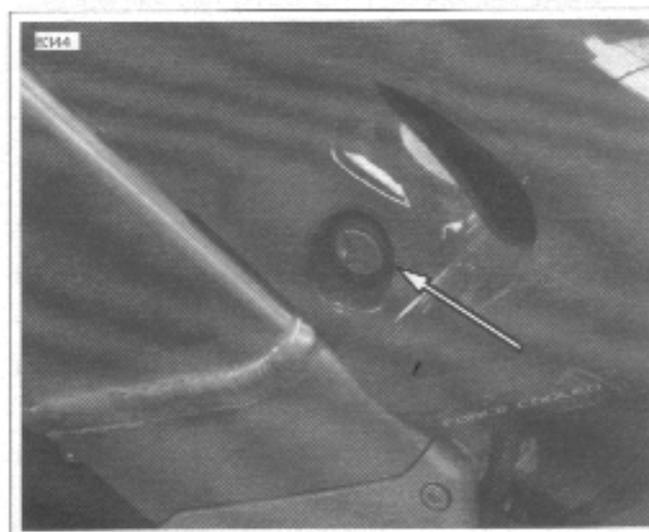

Figure 2-115. Pillion Seat Lock
1. See Figure 2-115. Insert ignition key into pillion seat lock located on left side of motorcycle. Turn key clockwise to disengage rear seat latch.